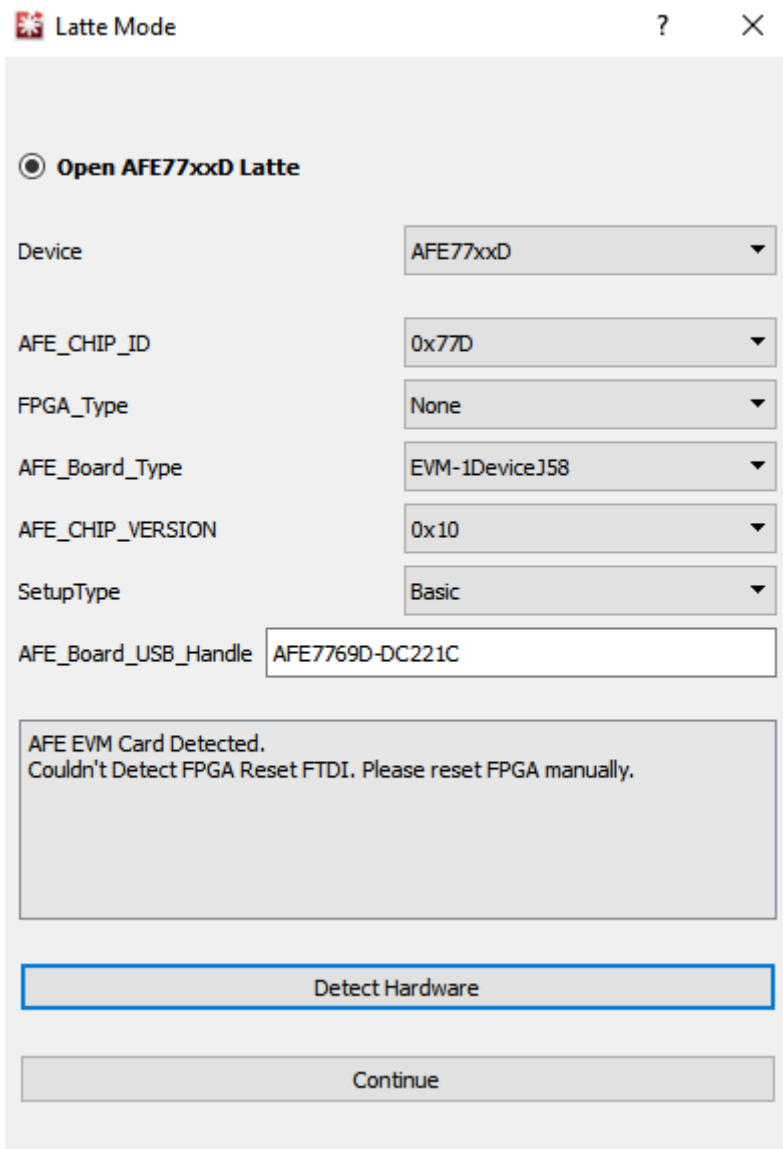

Figure 2-2. Initial Setup, AFE77xxD
2. An initial window pops up with the device setup information; verify the window has the exact same settings as shown in Figure 2-2.